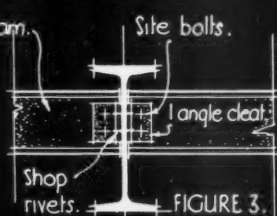

FIGURE 3.
(2) By shear. The usual arrangement for commercial buildings is the adoption of this method, and is shown in Figs. 3, 4, 5, and 6.
Shear forces are transmitted through the webs, and as a rule, therefore, web is connected to web. Such a connection is shown in Fig. 3 by one angle cleat.